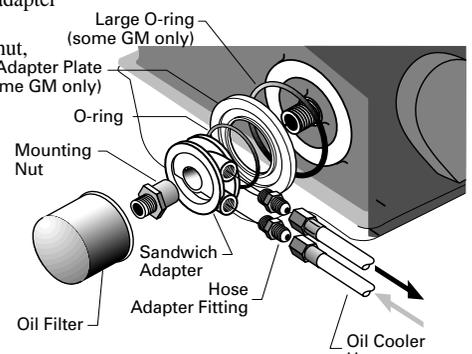

FIGURE 3 Sandwich Adapter Installation
3) Wrap 3/8" hose adapter fittings (not incl.) with Teflon tape, or coat with automotive thread sealer, and screw them into the sandwich adapter. FIG. 3.
5) Apply a light coat of oil to rubber o-ring and fit to groove in sandwich adapter. Fasten sandwich adapter to the engine block using the appropriate mounting nut, with o-ring facing engine block. FIG. 3. Point fittings toward hose route; tighten mounting nut. Do not overtighten.